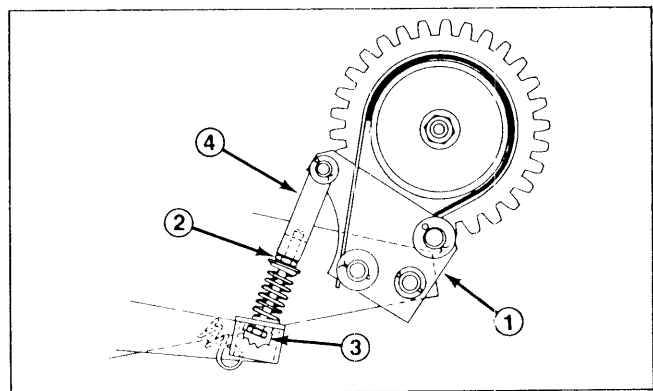

Figure 47
2. Hold jam nut above spring and rotate screw into clevis to reduce free travel of brake pedal (Fig. 47). Reverse procedure to increase pedal free travel.